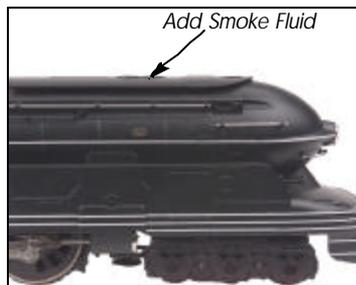

Figure 4 - Add Smoke Fluid
■ When preparing to run this engine, add 15-20 drops of smoke fluid through the smokestack. (see figure 4) We recommend M.T.H. ProtoSmoke, Seuth, LGB, or LVTS fluids (a small pipette of ProtoSmoke fluid is included). Do not over fill the unit or the fluid may leak out and coat the interior engine components.